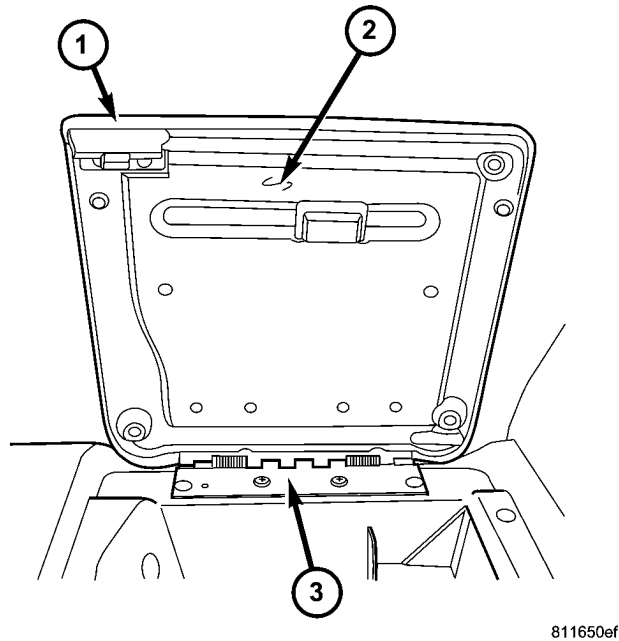

Fig. 1 CONSOLE LID
2. Remove 4 console hinge attaching screws (Fig. 1).
4. Remove the hinge from between the inner console lid and the upper console lid (Fig. 1).